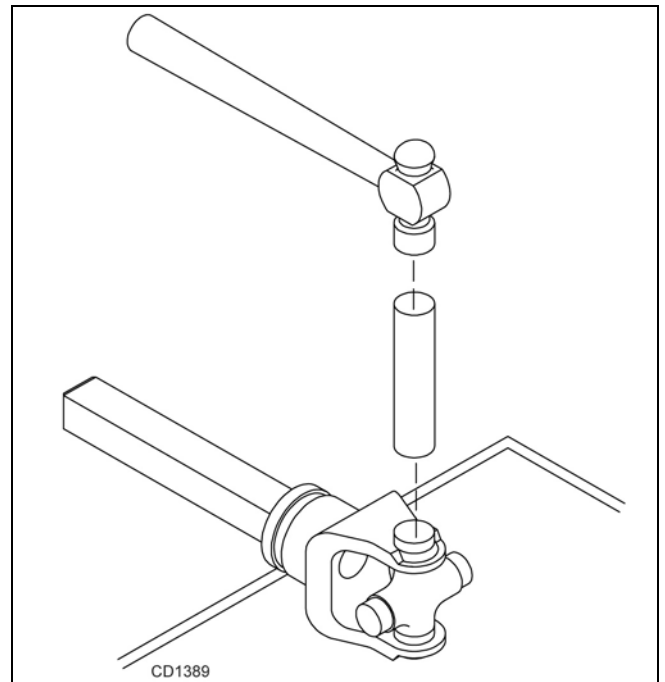

Figure 26
3. Seat cups by placing a drift or socket (slightly smaller than the cup) on cup and rap with a hammer. See Figure 26. Install snap ring and repeat on opposite cup.